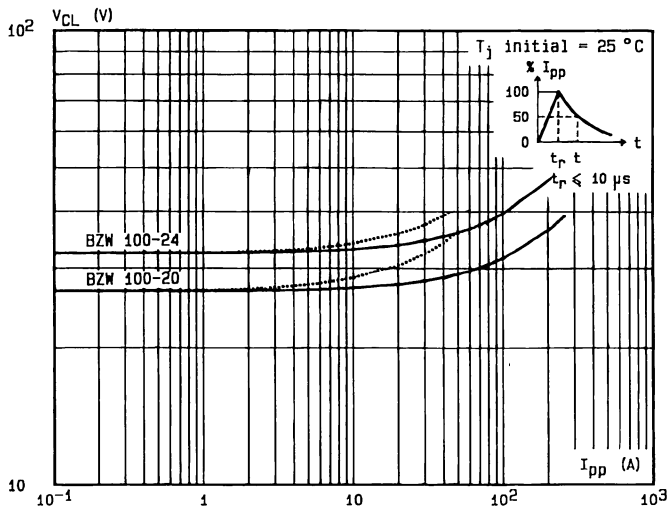

Fig.2 - Clamping voltage versus peak pulse current
Note : The curves of the figure 2 are specified for a junction temperature of 25 °C before surge. The given results may be extrapolated for other junction temperatures by using the following formula : ΔV (BR) = α_T (V (BR)) X $[T_j - 25]$ X V (BR)